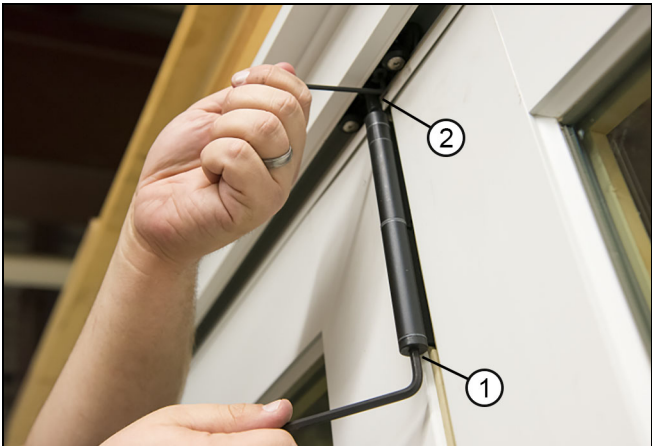

Figure 55
5. Up and down adjustment can only be done on the top hangers. Turn and hold the height adjustment lock at the base of the hinge with a 1/8" hex wrench. Use a 3/16" hex wrench in the end of the hinge to adjust the height. Turning clockwise will raise the panel while turning counter clockwise will lower the panel. See Figure 55.